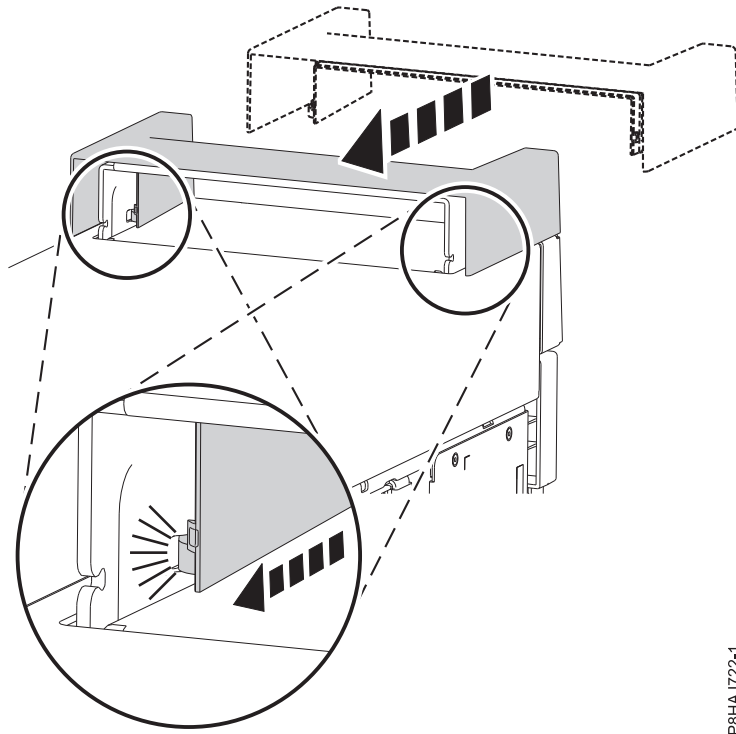

Figure 84. Securing the handle cover in an 8286-41A stand-alone system
1. Secure the handle cover to the internal RDX docking station (FC EUA3) by sliding it toward the rear of the system. See Figure 84.